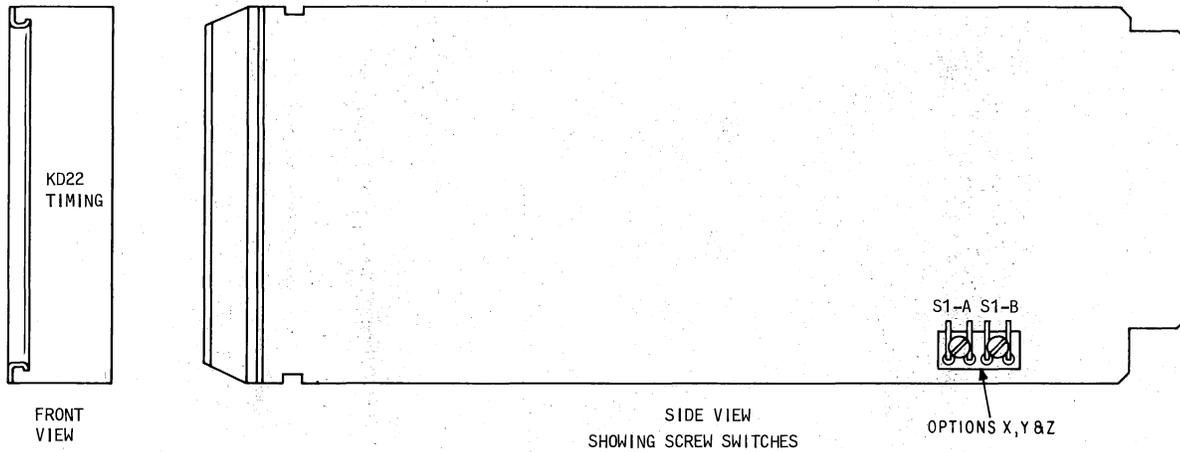

Fig. 5—Timing CP KD22
- Timing CP KD22 (Fig. 5)—One required per DSU.